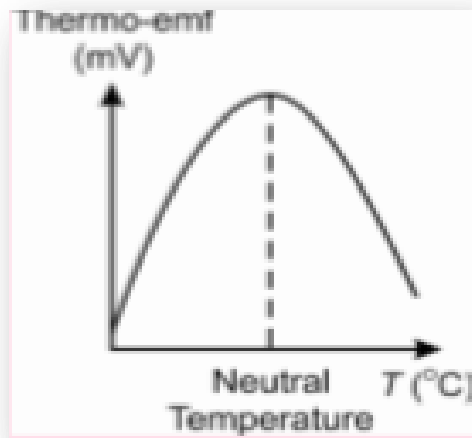

Fig.1: Graph between temperature and thermal emf.
- Plot a graph between e.m.f and temperature to get a curve as shown in the above fig.1. also draw a separate graph for cooling. Find out maximum e.m.f and neutral temperature from the curve.